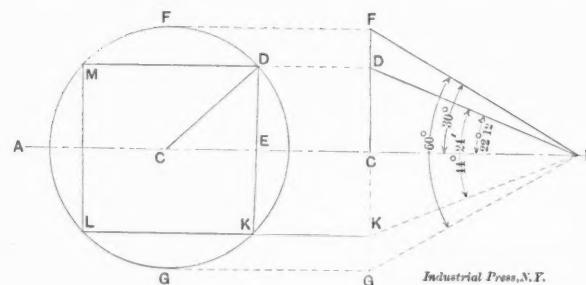

Fig. 1.
A.—Fig. 1 shows the square *M D K L* (the base of the pyramid) inscribed in a circle. That is, it is drawn so that its angles coincide with the circumference. The length of one side of the square or *D K* will be the angular divergence of the two opposite sides *M D* and *L K*, in the height of the pyramid. One-half *D K* or *D E* will be the angular divergence of any one side to the center line *A B*. Taking the radius of the circle to be 1, then from the familiar proposition for right-angled triangles we know that  $\overline{D E}^2 + \overline{E C}^2 = \overline{D C}^2 = 1$ . But *D E* and *E C* are equal, so  $2 \cdot \overline{D E} = 1$ ,  $\overline{D E} = .5$  and  $\overline{D E} = .7071$  (the square root of .5). Dividing .7071 by the length of the perpendicular height *C B*, Fig. 2, which in this case is 1.732, the